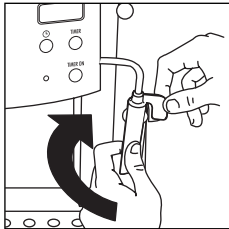

fig. 25
2. With one hand, hold the cappuccino tube firmly and with the other unscrew the cappuccino maker itself by rotating clockwise and extracting downwards (fig. 25).